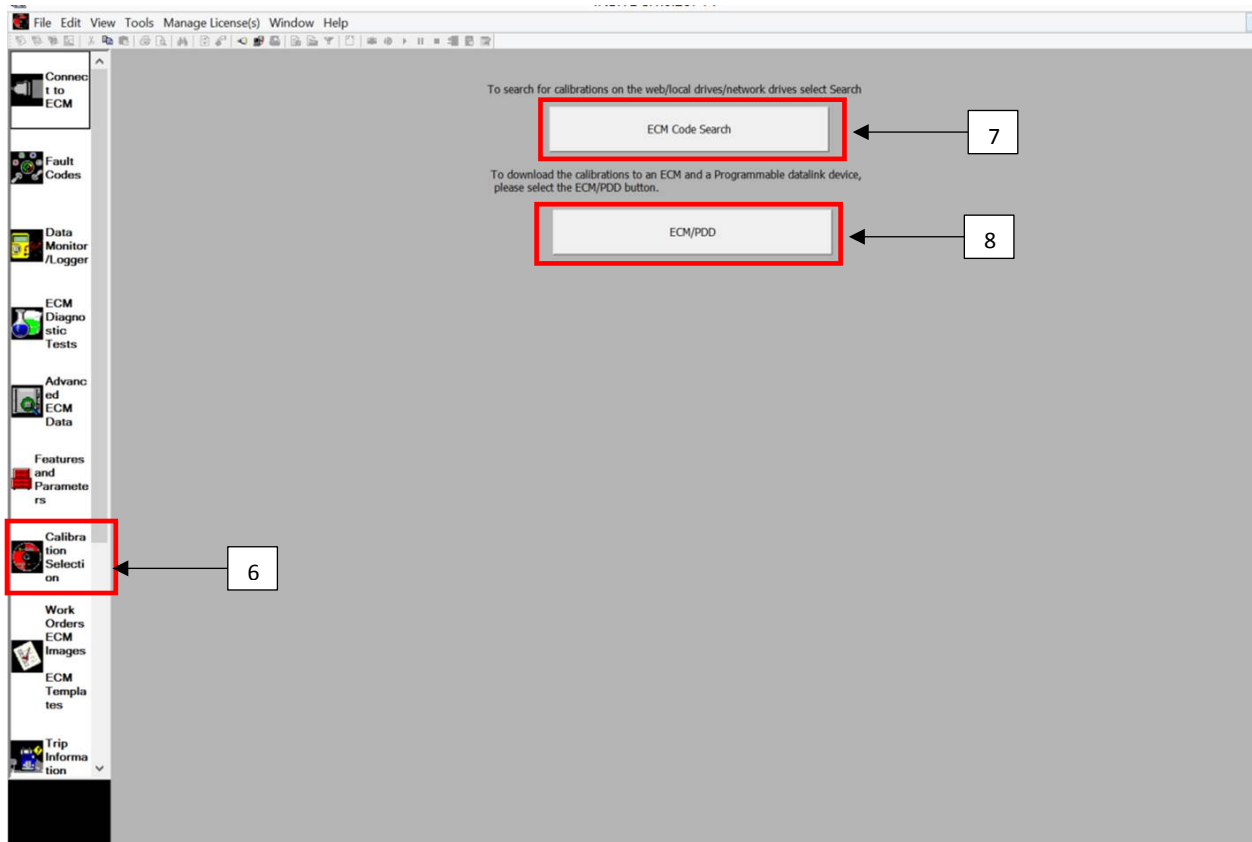

Figure 2. Calibration Selection
8. Open Insite- Calibration Selection [6]. Figure 2.
9. Click on **ECM/PDD Code Search** [7]. Figure 2.